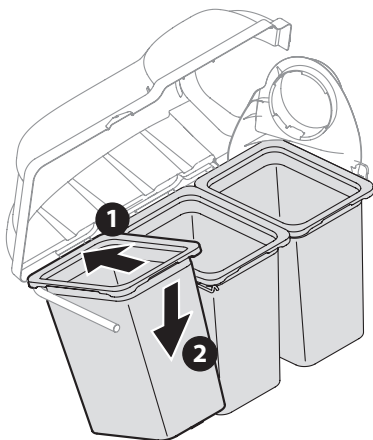

Figure 15
- Install the grass bag assembly (3) (664-05104), with the tight mesh panel facing the tractor, onto the bag support brackets by inserting the front edge in first (1), as shown in Figure 15, and setting the back edge down (2) until it fits into the assembly.